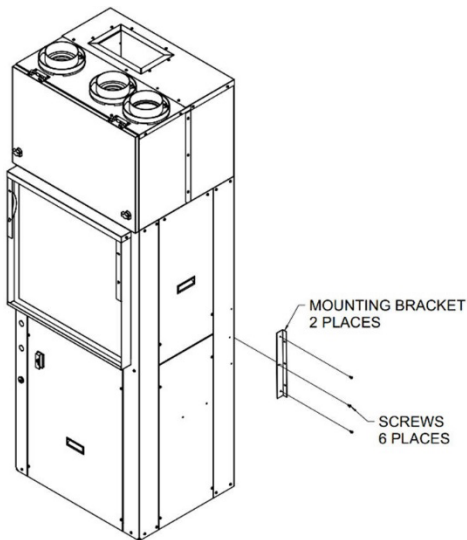

Figure 13 - Mounting Brackets Installation
7. Attach unit mounting brackets (2) as shown in figure 13